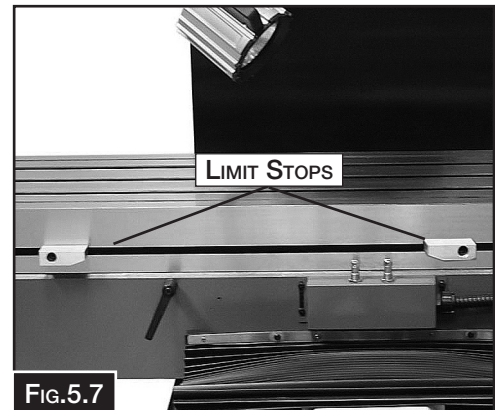

FIG.5.7
2. Move the limit stops along the front table slot to the position to cover the amount of table travel required. (Fig. 5.7)